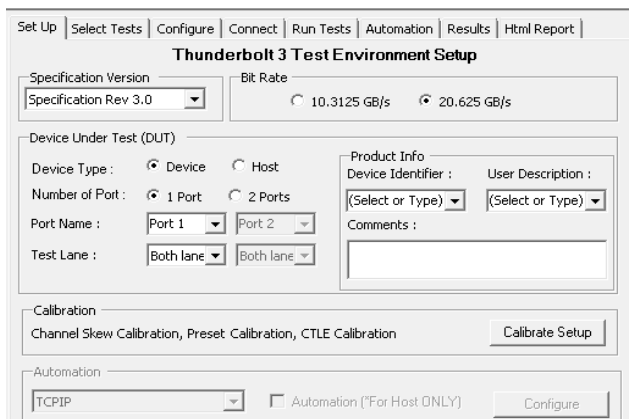
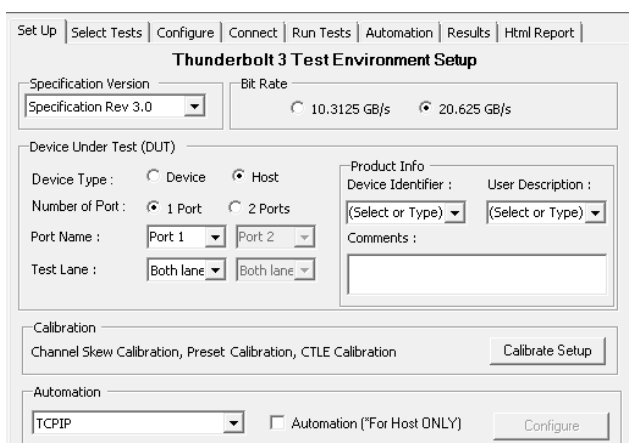

Figure 57 Set Up options for DUT Type “Device” operating at 20.625 GB/s
Figure 58 Set Up options for DUT Type “Host” operating at 20.625 GB/s
- 2 Under the **Set Up** tab, select the following options, as shown in Figure 57 and Figure 58.